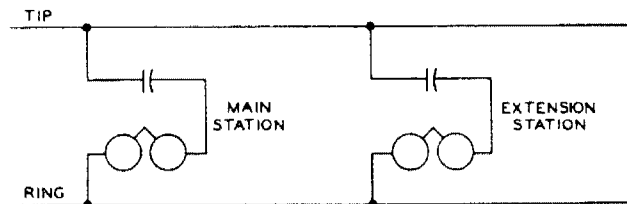

Fig. 1 — Individual Lines — Bridged Ringing
3.02 Individual line bridged ringing (Fig. 1) consists of a ringer, in series with a capacitor, bridged across the line.